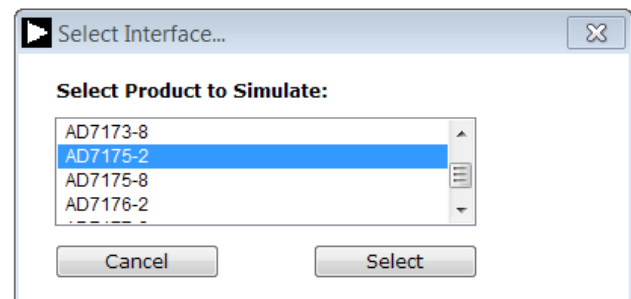

Figure 15. Evaluation Board Selection Simulation
4. The AD717x Eval+ software can also be used without connecting hardware. Click the **Simulation** button and the options shown in Figure 15 appear. The simulation mode uses a model and allows the **AD7172-2**, **AD7172-4**, **AD7173-8**, **AD7175-2**, **AD7175-8**, **AD7176-2**, or **AD7177-2** to be evaluated.